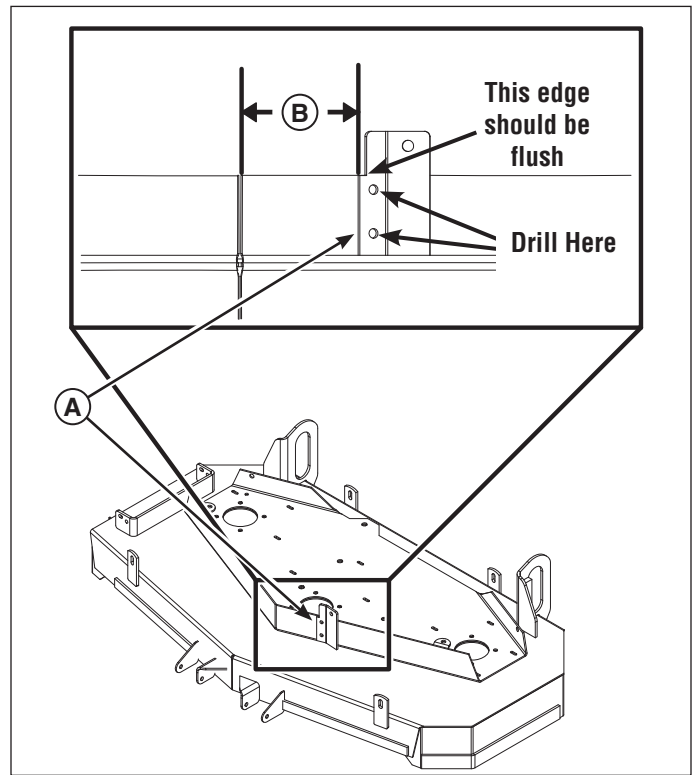

Figure 6. Drilling the New Holes for the Adjustable Belt Tension Anchor
1. Position the belt tension anchor (A, Figure 6) as shown in Figure 6.
2. Measure the distance from the edge of the bracket to the edge of the plate as shown in Figure 6. When the measurement equals 3-3/4" (9,5 cm), raise the belt tension anchor so that the top of the lip on the belt tension anchor is flush with the top edge of the plate and clamp the belt tension anchor in place.